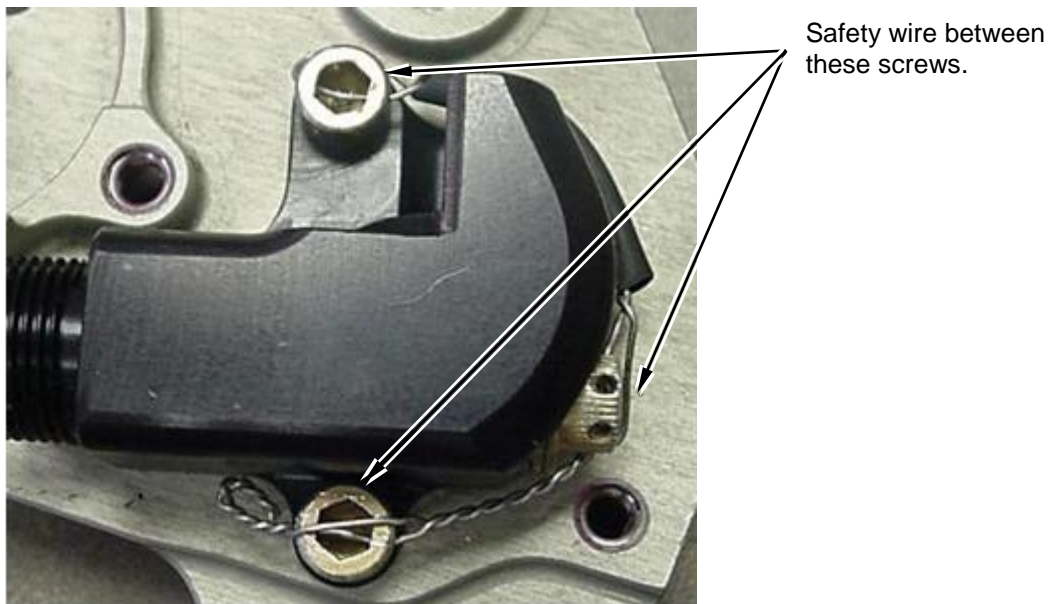

Figure 5.19 Safety Wire Slave Cylinder
9. Add safety wire to the mounting and bleed screws. See Figure 5.19.